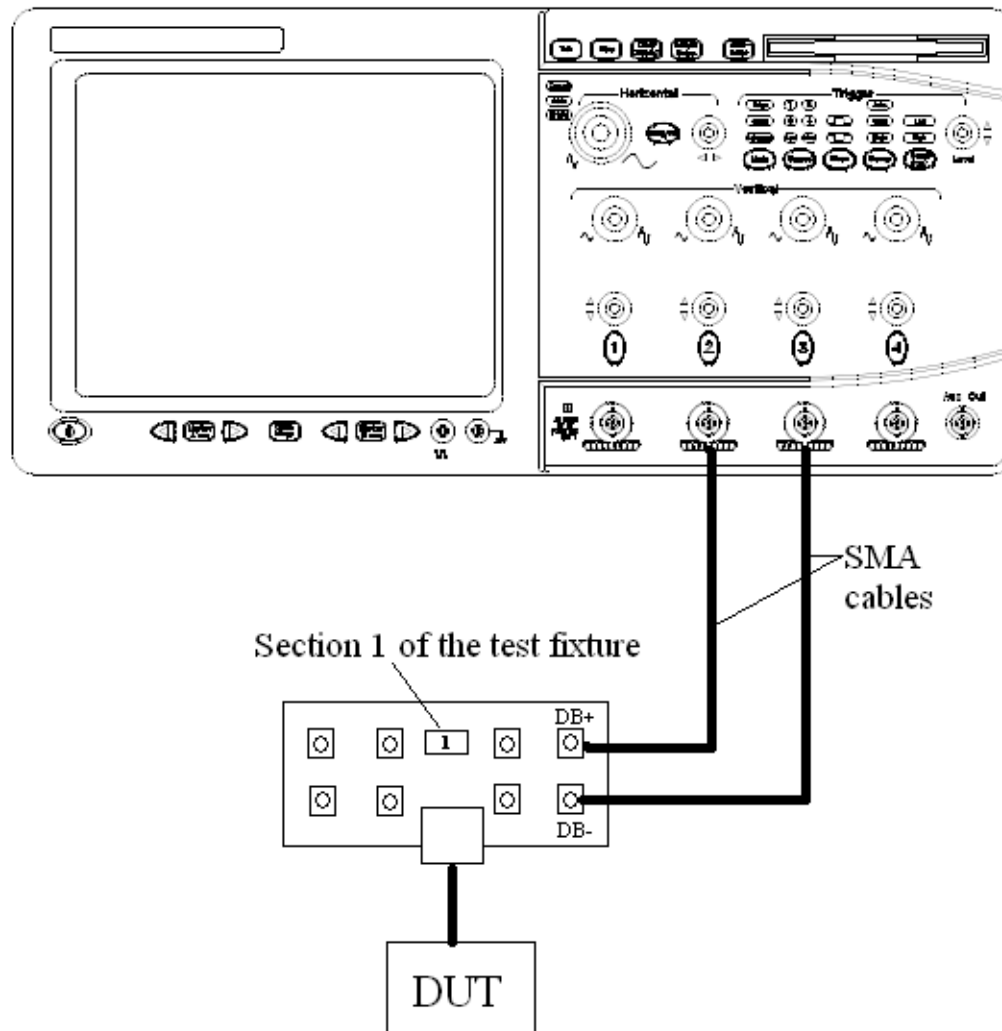

Figure 20 Probing for 1000 Base-T Jitter MASTER Unfiltered without access to TX_TCLK
When performing 1000 Base-T jitter tests for the DUT without providing access to the internal TX_TCLK, you can view the connection setup under the application's "Connection" tab (also shown in Figure 20).
- 2 Connect one end of two short SMA-SMA cables to the SMA test points for the pair you are testing (A, B, C, or D) on fixture 1 and the other end to the Channel 3 and Channel 4 of the oscilloscope. (The channel shown in Figure 20 is just an example.)
As indicated in Figure 20, only the MDI data signal is connected to the oscilloscope. The algorithm proceeds as follows:
As indicated in Figure 20, only the signal at MDI is connected to the oscilloscope. The algorithm proceeds as follows: